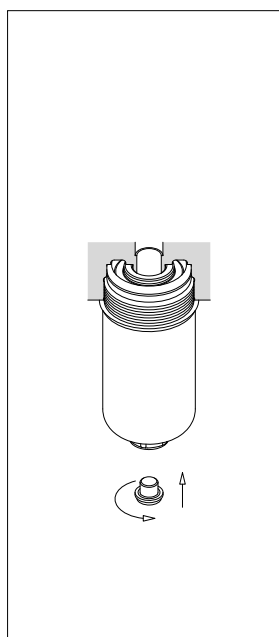

fig. 11
- (Fig. 11) Screw the drain plug in referring to the tightening torque table in paragraph 3